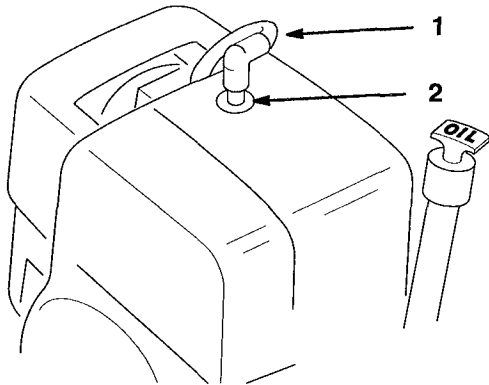

Figure 19
3. Pull the wire(s) off the spark plug(s) (Fig. 19). Now clean around the spark plug(s) to prevent dirt from falling into the engine and potentially causing damage.
3. Push the wire(s) onto the spark plug(s) (Fig. 19).